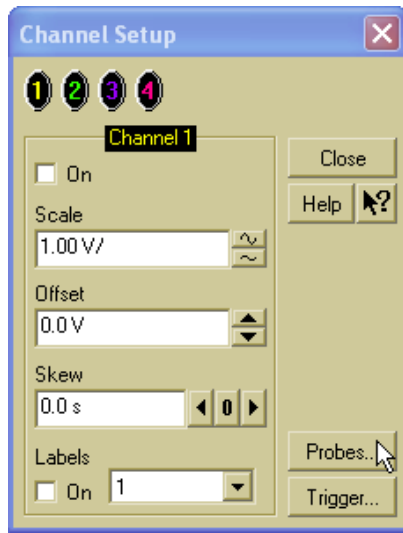

Figure 21 Channel Dialog Box
- 2 In the Channel Setup dialog box, select the Probes... button, as shown in Figure 21.